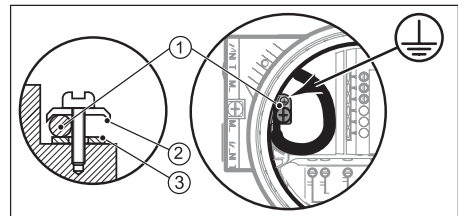

Fig. 4.2 Earth wire connection
- \* If required, mount earth wire (1) between top (2) and stainless steel washer (3) of earth wire connection (see Figure 4.2).